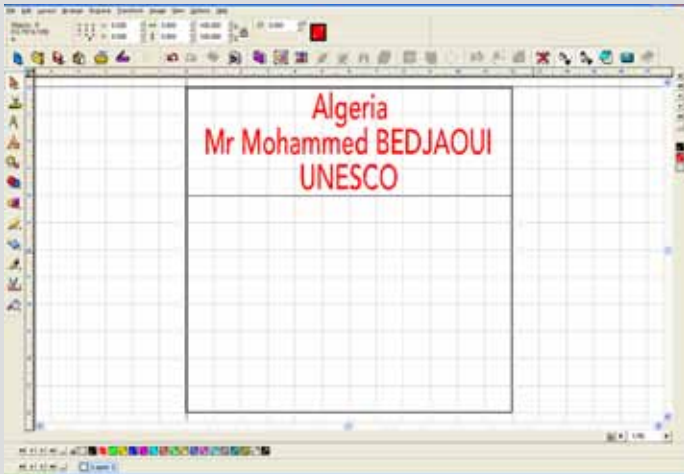

Fig 38 - After badges have been created, the view will return to the Vision Pro workspace, where text substitution for each badge has occurred.
1. When the badges have been completed, the workspace will display the first badge in the series. (Fig. 38)